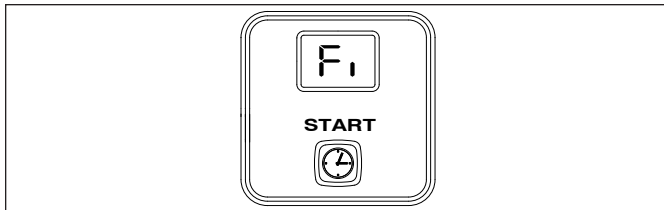

Figure 10. Fi - LED Display for Flush Interval Mode
2. When Fi (Figure 10) is displayed, press and release button to view current setting.